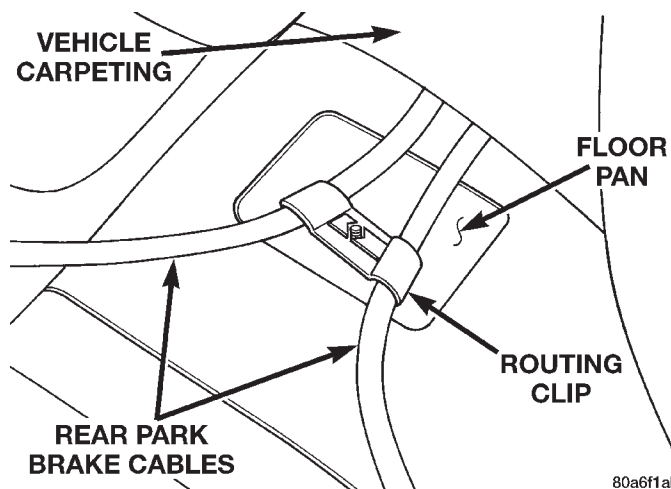

Fig. 144 Park Brake Cable Attachment To FloorPan
(10) Remove rear seat cushion from vehicle.
(11) Remove scuff plates from right and left rear door sills. Scuff plates are attached to door sills using clips on bottom of scuff plates. Remove by carefully prying scuff plate retaining clips out of door sills.
(12) Fold rear carpeting forward to expose park brake cables.
(13) Remove the routing clip (Fig. 144) attaching the rear park brake cables to the floor pan of the vehicle.
(12) Install the routing bracket holding park brake cables to the floor pan of the vehicle (Fig. 144).